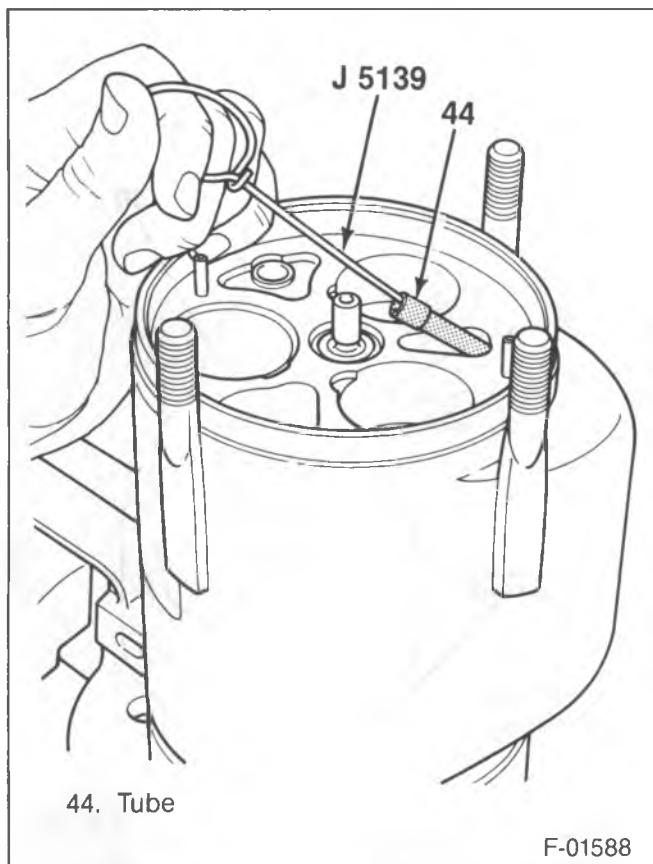

Figure 21—Removing the Oil Pick-Up Tube
- 8. Oil pick-up tube (44) with J 5139 (figure 21).
- 9. Seal (45).